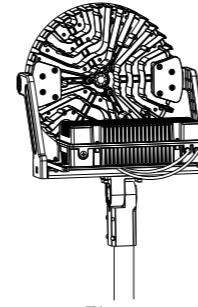

Figure 15
- 2: Place the mount into the pole and lock the four bolts. (Figure 15)